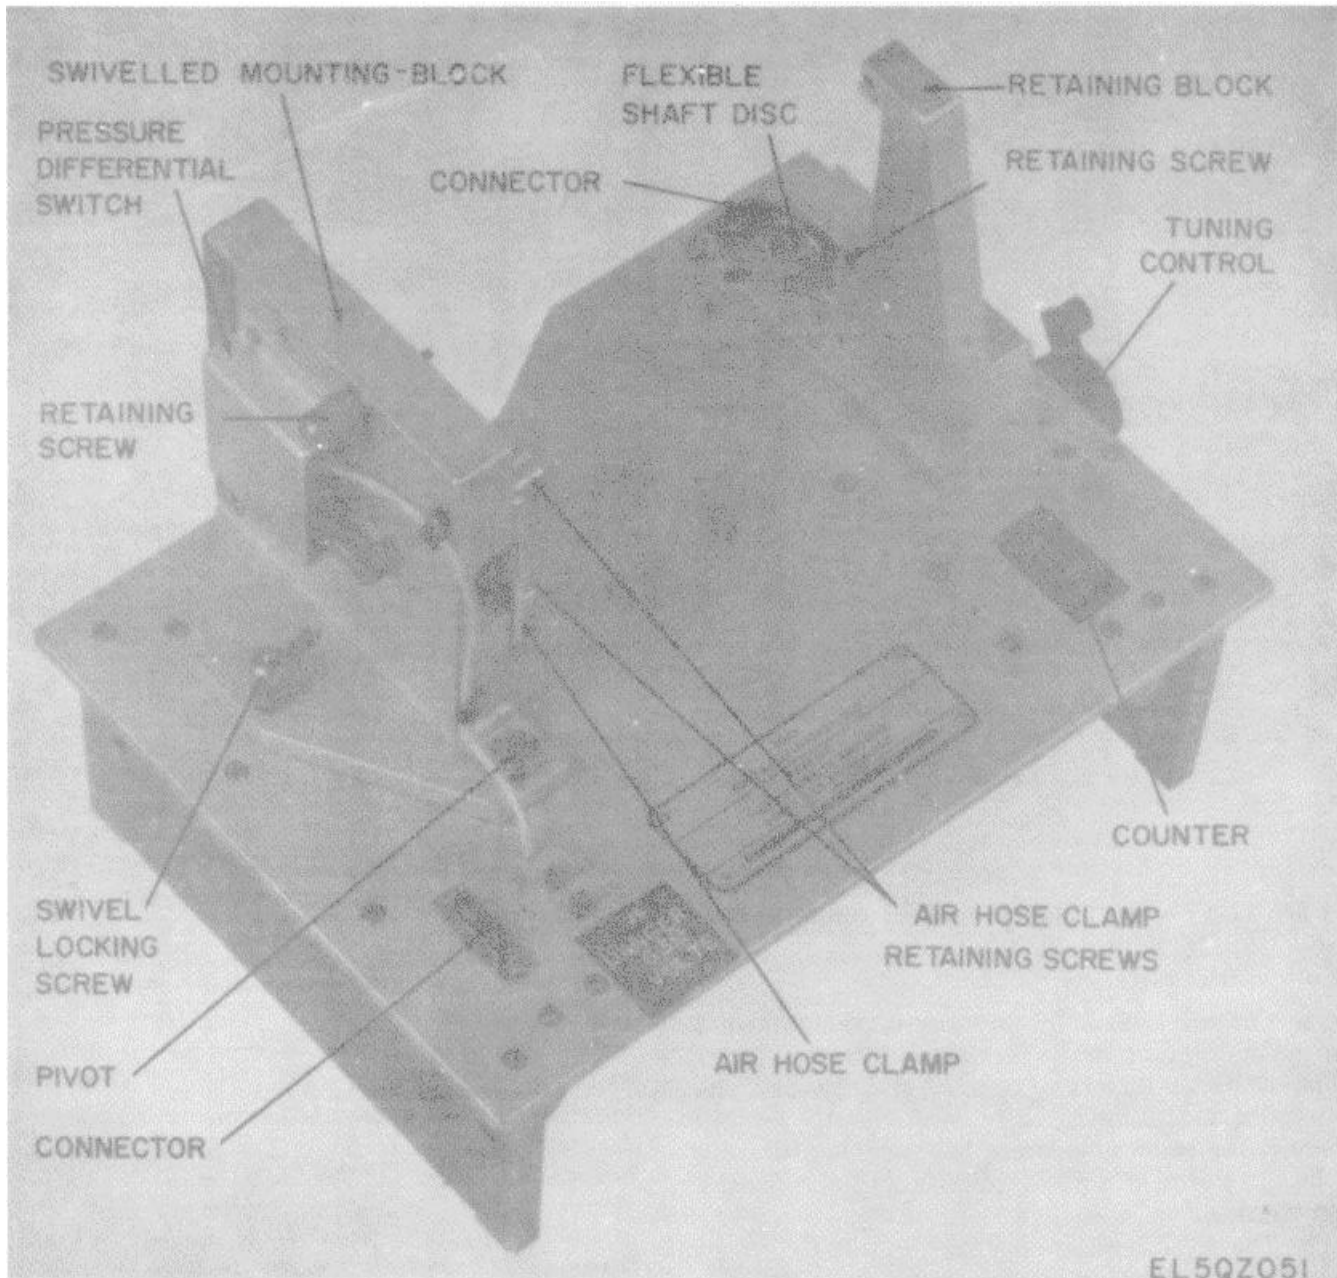

Figure 3-12. Radio Frequency Amplifier Test Fixture TS-3827/GRM-95(V)2.
(fig. 3-12)**
b. The AUT is positioned on the test fixture so that the two locating pins on the unit engage holes in the retaining block adjacent to J3 (fig. 3-12), and the tuning